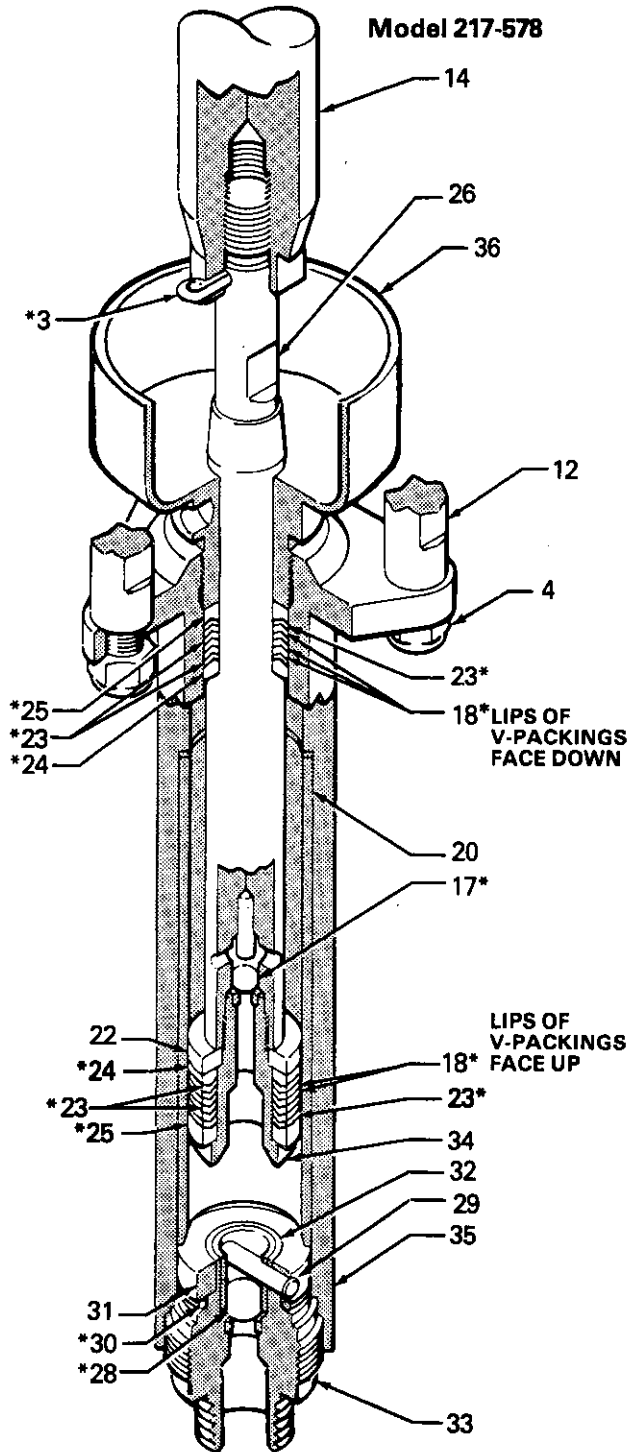

Fig 4
One at a time, install a female gland (25\*), a UHMWPE v-packing (23\*), a leather v-packing (18\*), a UHMWPE v-packing (23\*), two leather v-packings (18\*), a UHMWPE v-packing (23\*), a male gland (24\*), and the packing retainer (22) onto the piston (34). See Fig 4.
One at a time, install a male gland (24\*), a UHMWPE v-packing (23\*), two leather v-packings (18\*), a UHMWPE v-packing (23\*), a leather v-packing (18\*), a UHMWPE v-packing (23\*), and a female gland (25\*), into the throat of the pump housing (35). See Fig 4.